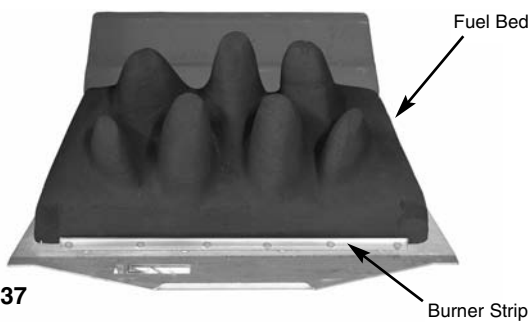

Fig. 37
2. Place the main fuel bed on to the middle section of the metal burner tray. It is important that the front edge of the fuel bed is located behind the burner strip (Fig. 37).